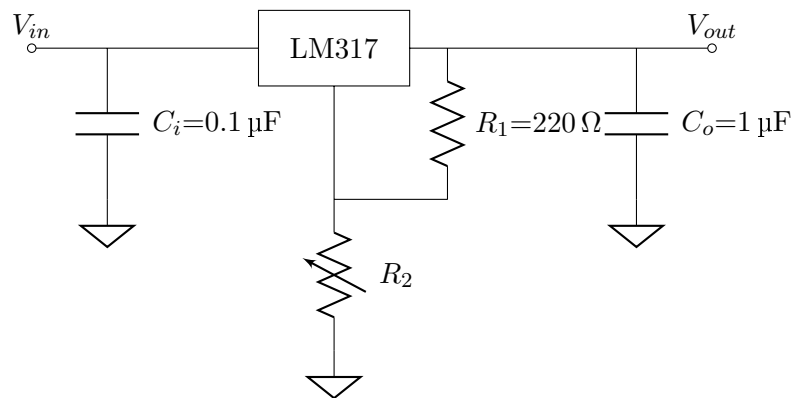

Figure 2: Schematic of the voltage regulator circuit using LM317.
1. Using Fig. 2 as a reference, build the regulator circuit on the breadboard.